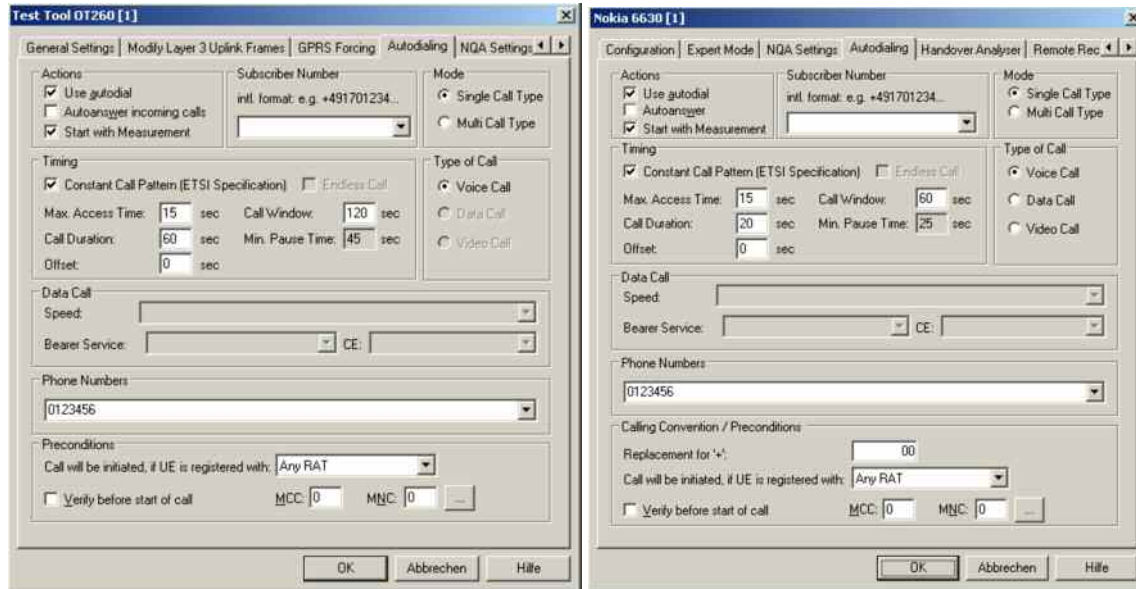

Fig. 6-24 Driver Configuration – Autodialing tab (all drivers, single call type)
- A single call is set up according to the settings in the remaining panels of the *Autodialing* tab (see Fig. 6-24 on p. 6.58). The call is periodically repeated if *Use autodial* is selected.